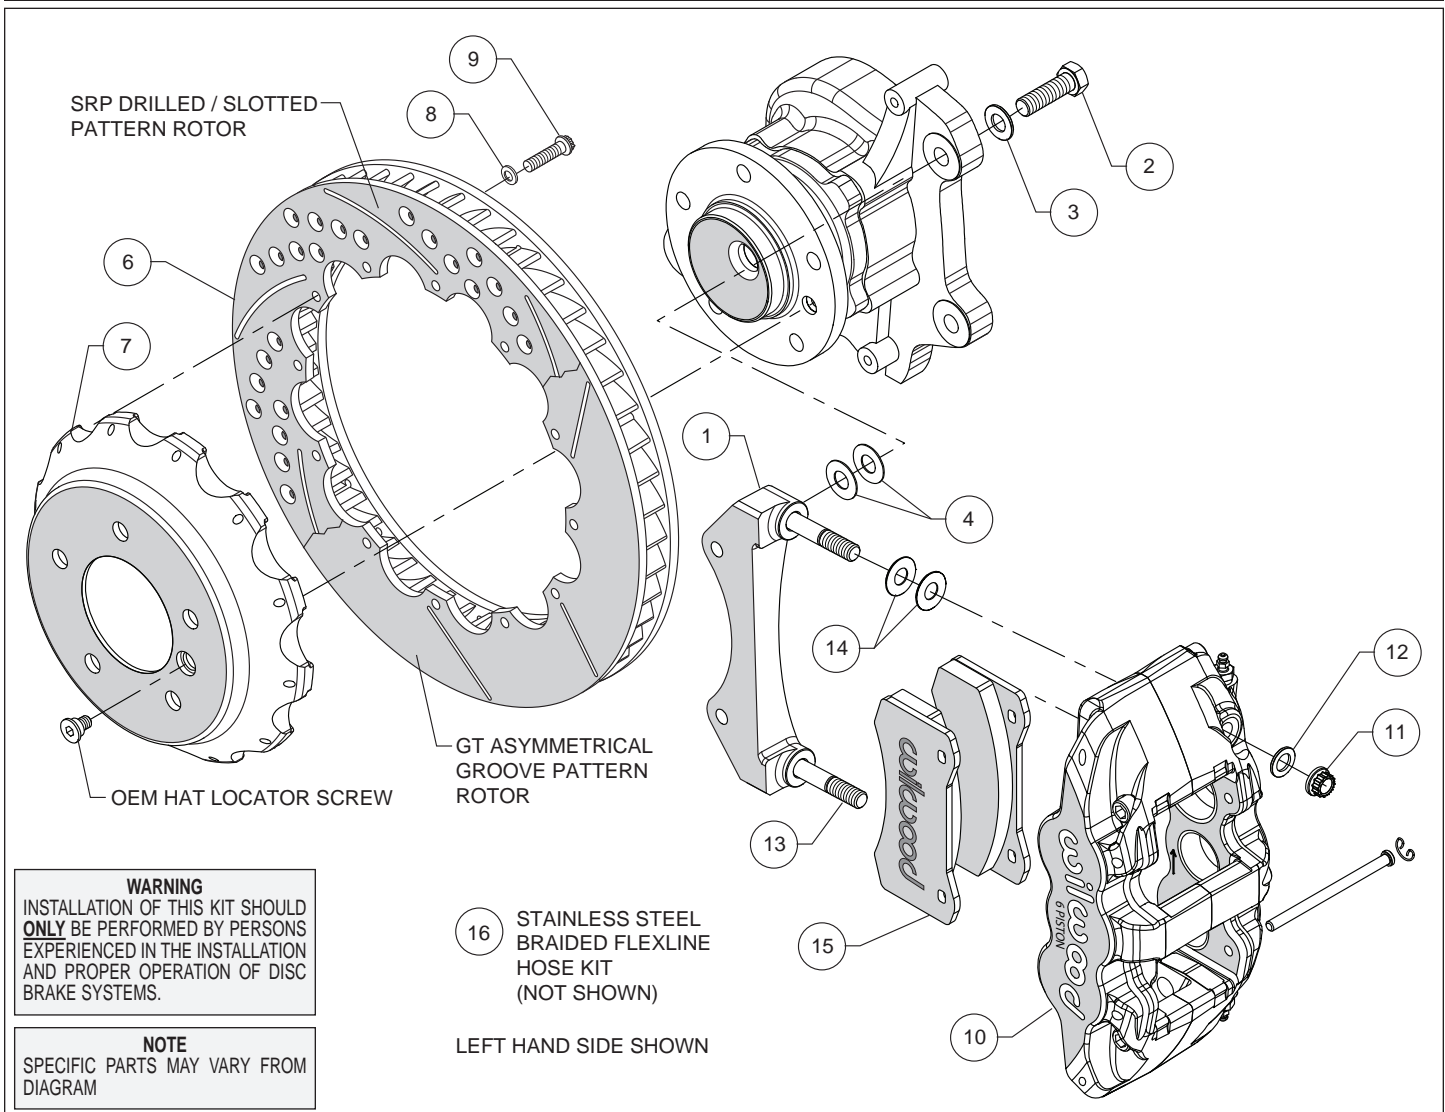
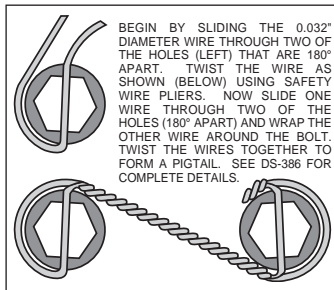

Figure 1. Typical Installation Configuration
Figure 3. Safety Wire Diagram
**Assembly Instructions** (numbers in parenthesis refer to the parts list and Figure 1 on the preceding pages):
- The caliper mount bracket (1) should initially be installed with clean, dry threads on the mounting bolts. Orient the bracket as shown in Figure 1, and Photo 1. Install bracket using mount bolts (2), and washers (3). Initially place two .033" thick shims (4), on each bolt between the bracket and upright, Figure 1. Temporarily tighten the mounting bolts. **NOTE:** *The bracket must fit squarely against the mount bosses on the upright.* Inspect for interference from casting irregularities, machining ridges, burrs, etc. Later, after the caliper alignment has been checked, the mount bolts will be secured using red *Loctite*® 271.
- Orient the rotor (6) and the hat (7) as shown in Figure 1 and Photo 2. Attach rotor to hat using bolts (9) and washers (8). Using an alternating sequence, apply red *Loctite*® 271 to the threads and torque bolts to 155 in-lb. For an added measure of security, the bolts may be safety wired using standard 0.032 inch diameter stainless steel safety wire as shown in Figure 3. Please refer to Wilwood's data sheet DS-386 (available at [www.wilwood.com/Pdf/DataSheets/ds386.pdf](http://www.wilwood.com/Pdf/DataSheets/ds386.pdf)) for complete safety wire installation instructions.
- NOTE:** *This kit contains distinct right and left hand calipers that must be mounted in a specific direction, as described below.* Lubricate the caliper mounting studs (13) with lightweight oil. Initially place two .030" thick shims (14) on each stud as shown in Figure 1 and Photo 4. Mount the caliper (10) onto the bracket (1) using lock nuts (11) and washers (12), Figure 1. Ensure that the caliper is mounted so that the largest pistons are at the rotor exit end of the caliper, in relation to the direction of rotor rotation. Temporarily tighten the lock nuts and view the rotor through the top opening of the caliper. The rotor should be centered in the caliper, Photo 5. If not, adjust by adding or subtracting shims (4 and/or 5) between the bracket and the upright. Always use the same amount of shims on each of the two mounting bolts. Once the caliper alignment is correct, remove the bracket mounting bolts one at a time, apply red *Loctite*® 271 to the threads, and torque to 60 ft-lb.
- Remove the two pad retaining pins from the caliper by carefully popping out the pin retaining clips and sliding out the pins. Insert the brake pads (15) into the caliper from the bottom, Figure 1, and Photo 6, with the friction material facing the rotor and secure the brake pads in place with the pad retaining pins and clips, Photo 7. Reinstall the caliper onto the caliper mounting bracket and temporarily tighten the lock nuts. Check that the top of the brake pad is flush with the outside diameter of the rotor, Photo 8. If not, adjust by adding or subtracting shims (14) between the caliper and the bracket. After the caliper pad height is set, torque the caliper lock nuts (11) to 47 ft-lb.